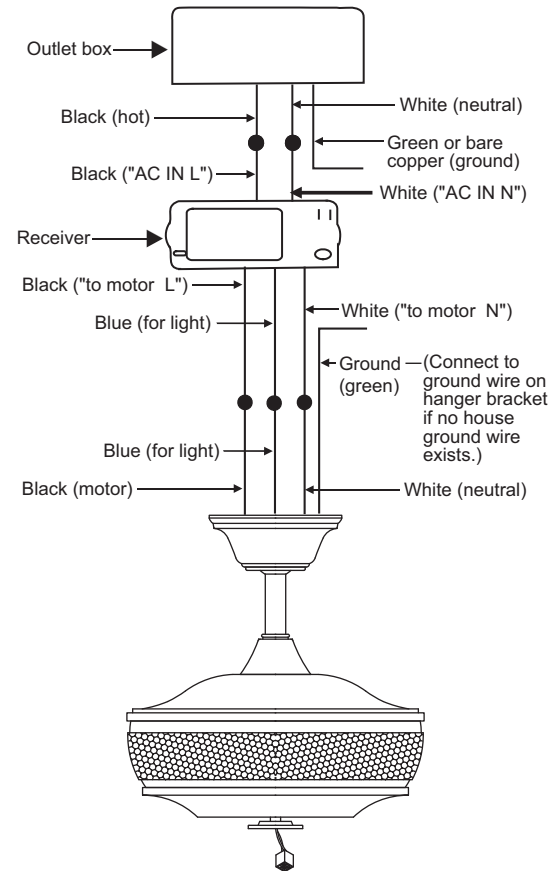

Fig. 14
Step 2. Motor to Receiver Electrical Connections: (Fig. 14) Connect the black wire from the fan to the black wire marked "TO MOTOR L" on the receiver. Connect the white wire from the fan to the white wire marked "TO MOTOR N" on the receiver. Connect the blue wire from the fan to the blue wire marked "FOR LIGHT" on the receiver. Secure all the wire connections with the plastic wire nuts provided.
Step 3. (Fig. 14) Receiver to House Supply Wires Electrical Connections: Connect the black (hot) wire from the ceiling to the black wire marked "AC in L" from the receiver. Connect the white (neutral) wire from the ceiling to the white wire marked "AC in N" from the Receiver. Secure the wire connections with the plastic wire nuts provided.
Step 4. (Fig. 14) If your outlet box has a ground wire (green or bare copper) connect it to the fan ground wires; otherwise connect the hanging bracket ground wire to the mounting bracket. Secure the wire connection with a plastic nut provided. After connecting the wires, spread them apart so that the green and white wires are on one side of the outlet box and black and blue wires are on the other side. Carefully tuck the wire connections up into the outlet box.